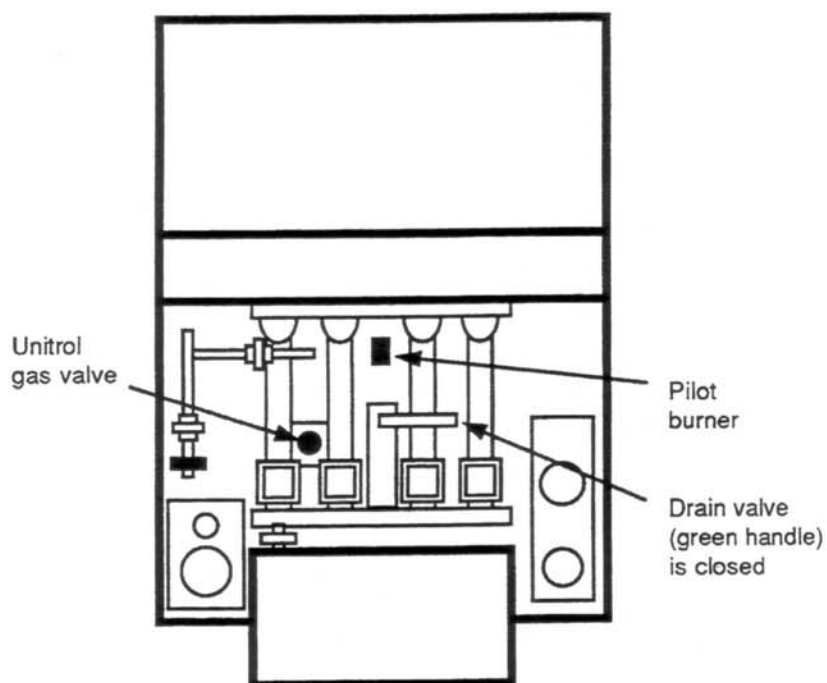
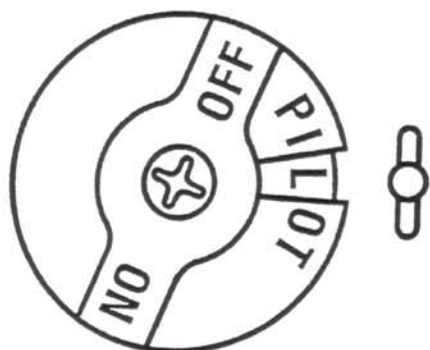

Fig. 8
Fig. 9
2. Figure 8 shows how to set the valves when you are filling the fry kettle. Close the drain valve (green handle). Swing the handle clockwise so it points to the left. Fill the kettle with liquid shortening up to the fill line.
4. To light the pilot, find the Unitrol knob inside the cabinet. See Fig. 8. The Unitrol knob is light brown, and is marked with three positions: Off-Pilot-On. Turn the Unitrol knob to the Pilot position and push it inward. See Fig. 9.
5. While you're holding the knob in, light the pilot burner. This burner is located between the two center burners. See Fig. 8.